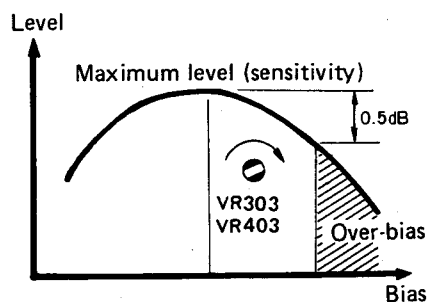

Fig. 9-4 Output level drops 0.5dB
5. Record the 333Hz signal onto the STD-601 test tape, and while playing it back again, adjust VR303 and VR403 by turning clockwise, stop at the position where the playback output level drops back by 0.5dB after passing the maximum output level (see Fig. 9-4).